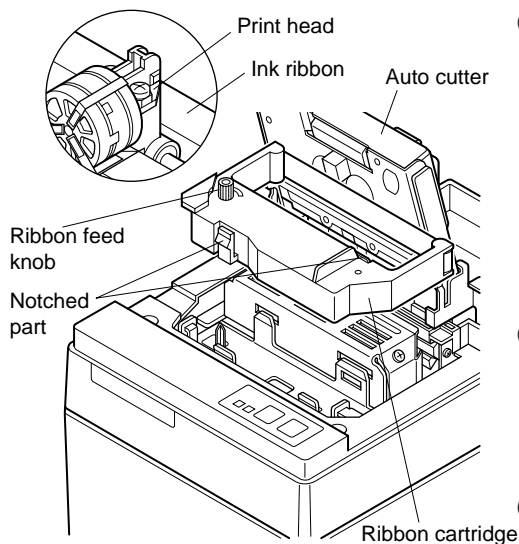

Fig. 4-10 Loading the ribbon cartridge
- ④ Place the ribbon cartridge in the direction shown in Fig. 4-10 and press it down to load it. If loading of the ribbon cartridge is not satisfactory, press down the cartridge while rotating the ribbon feed knob in the direction of the arrow.
- ⑤ Turn the ribbon feed knob of the ribbon cartridge in the direction of the arrow to remove slack in the ribbon.
- ⑥ Close the Auto Cutter.
- ⑦ Mount the cover by reversing the procedure outlined in step ② above.